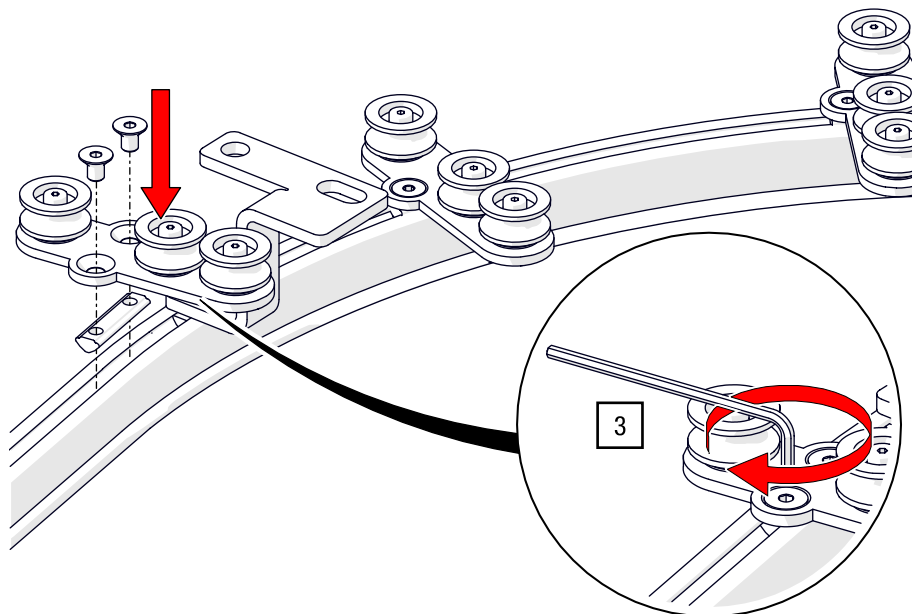

Fig. 72: Top cord operation – Mount cord guide for curve
3. Position one of the supplied cord guides in each of the curves close to the suspensions, distribute the rest along the track bend (double roller on the opposite side of the cord clamp) and tighten the screws using a hex key AF 3 (see Fig. 72).